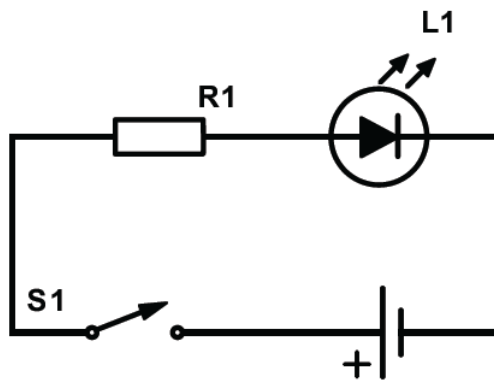

Figure 6
a. What is the purpose of resistor R1 shown in Figure 6?